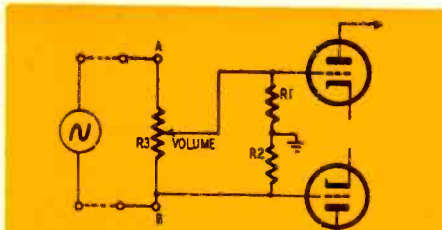
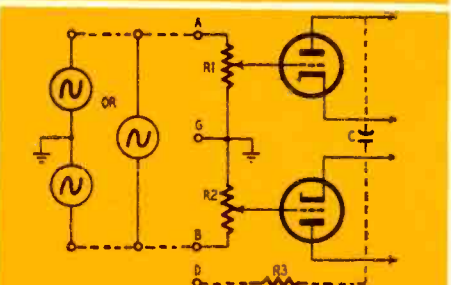

Fig. 5—Single control between grids.
Fig. 3—Circuit shows separate controls.
### 4. Single control between grids (Fig. 5)
4.2.2. Asymmetry makes Fig. 5 inferior to Fig. 3 for hum cancellation and amplifier balance. At full volume, any difference in voltage from A to ground and B to ground by reason of different lead and source capacitances, etc., will unbalance the amplifier. At low or zero volume, any large voltage from B to ground will produce even harmonics as well as the fundamental, if the amplifier is not perfectly balanced.
You can get away with using Fig. 5 where the source has little capacitance to ground and low enough impedance so that R1 and R2 need not be high. It is risky with crystal pickups, but I am using a Pickering magnetic.